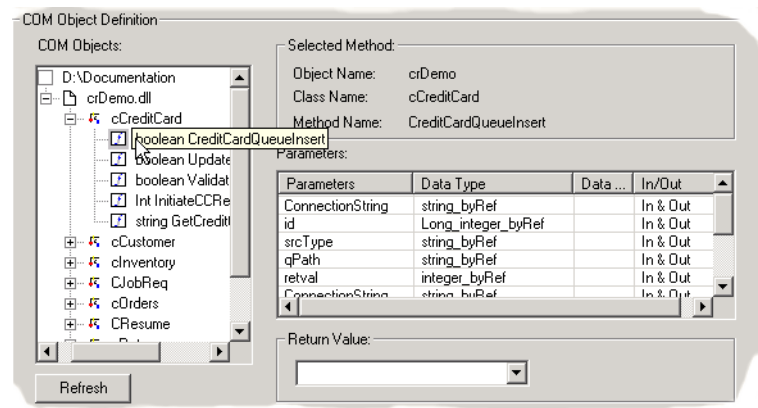

Figure 37-11. The COM Object Browser with selected methods and parameters.
- ③ Type the path to the directory holding the object. Or, click **Browse** and go to the correct location.
- ④ All of the registered objects in that directory appear in the COM Objects window. Double-click on the desired object. Click on the “+” next to the object to list all its classes. Double-click the “+” next to the classes to list all the properties and methods. Double-click the “+” next to the desired method or property to list its parameters (see Figure 37-11, below).